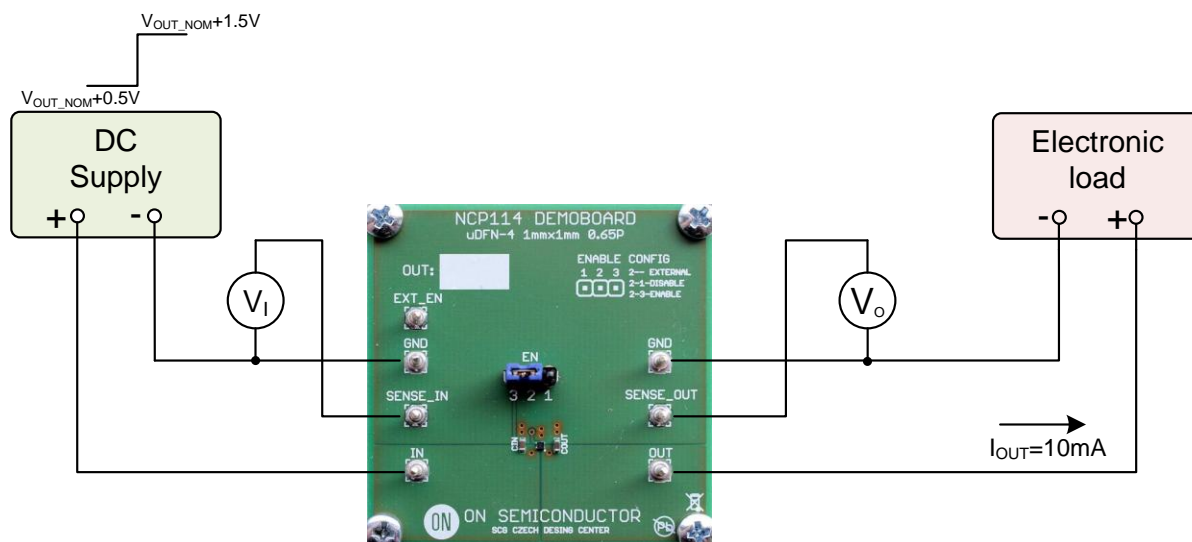

Figure 3: Test configuration for measurement  $REG_{LINE}$ , Line Regulation
1. Connect circuit as shown on figure 3